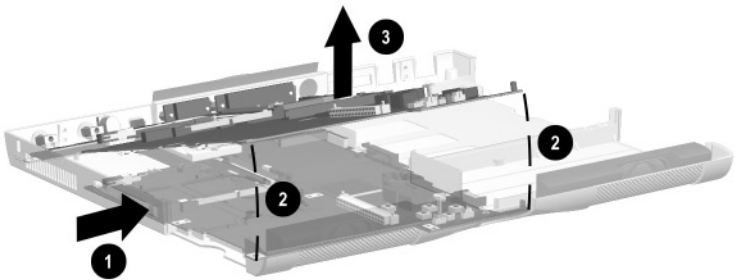

Figure 5-28. Removing the System Board
9. Press in and hold the PC Card eject button ❶ (Figure 5-28).
10. Lift up the front edge of the system board ❷ until it clears the base enclosure.
11. Slide the front edge of the system board forward, away from the base enclosure, at an angle ❸.